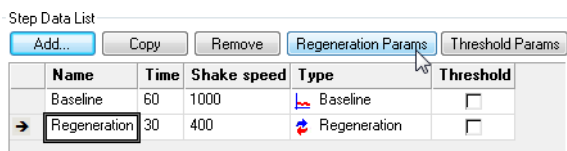

Figure 10-43: Regeneration Params Button
4. Click **Regeneration Params** (Figure 10-43).